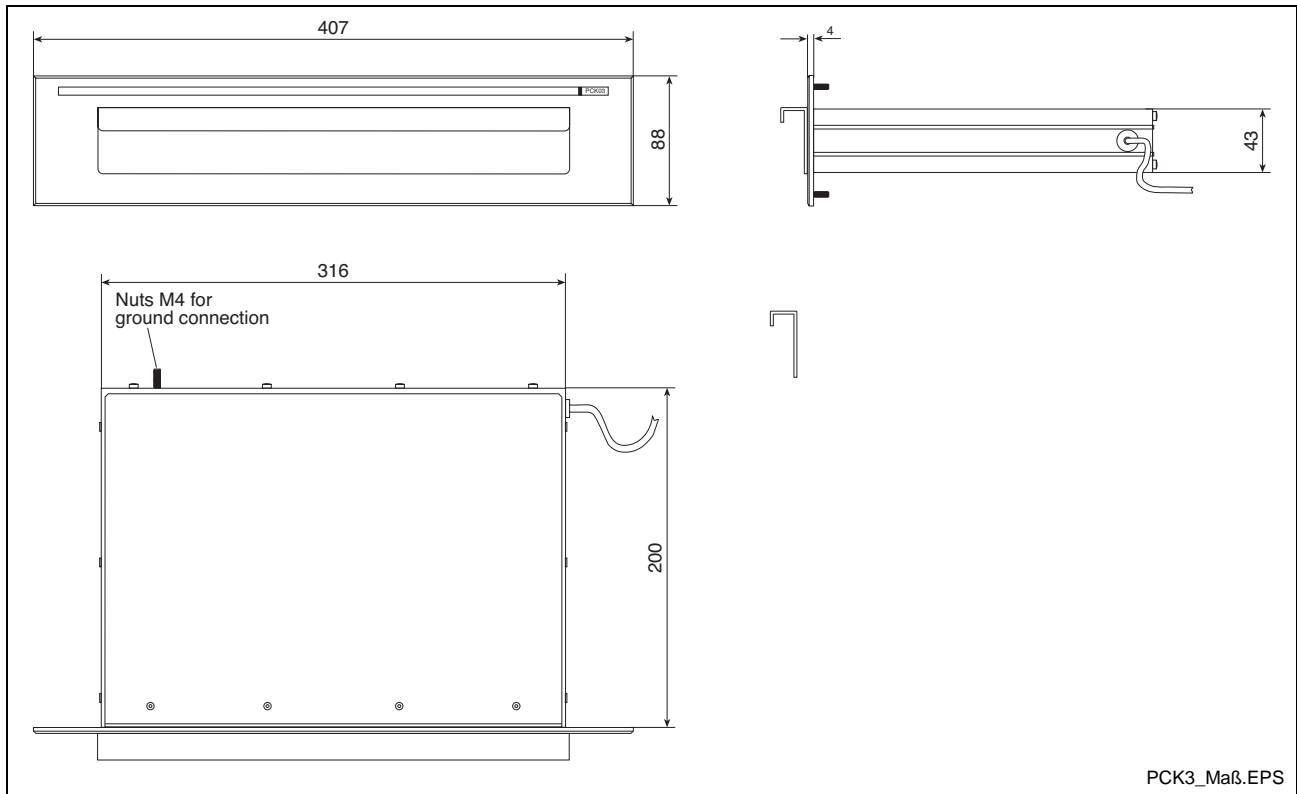

Fig. 7-1: Housing dimensions PCK 03.3
- Fig. 7-1: Housing dimensions PCK 03.3 7-1